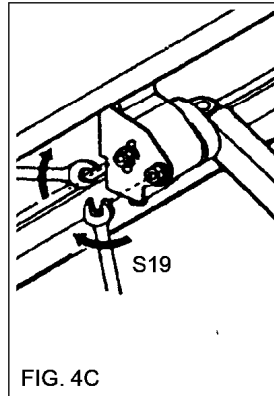

FIG. 4C
- * tighten the 2 sidenuts securely (fig. 4C).